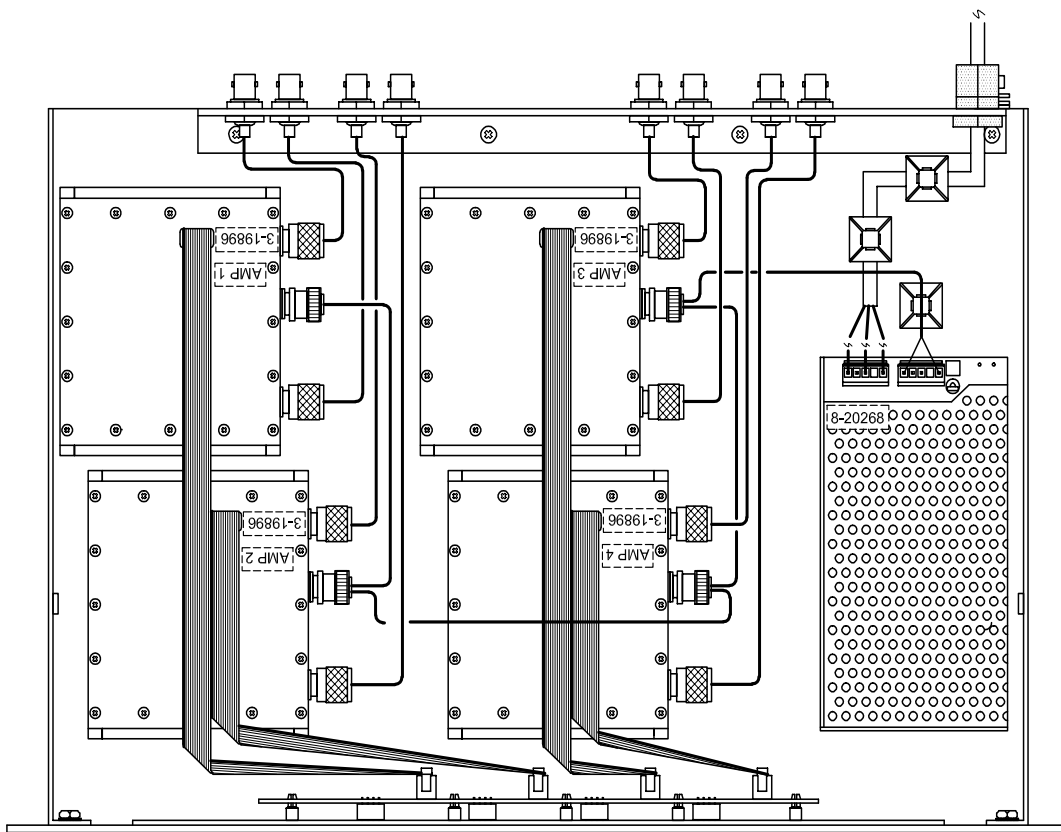
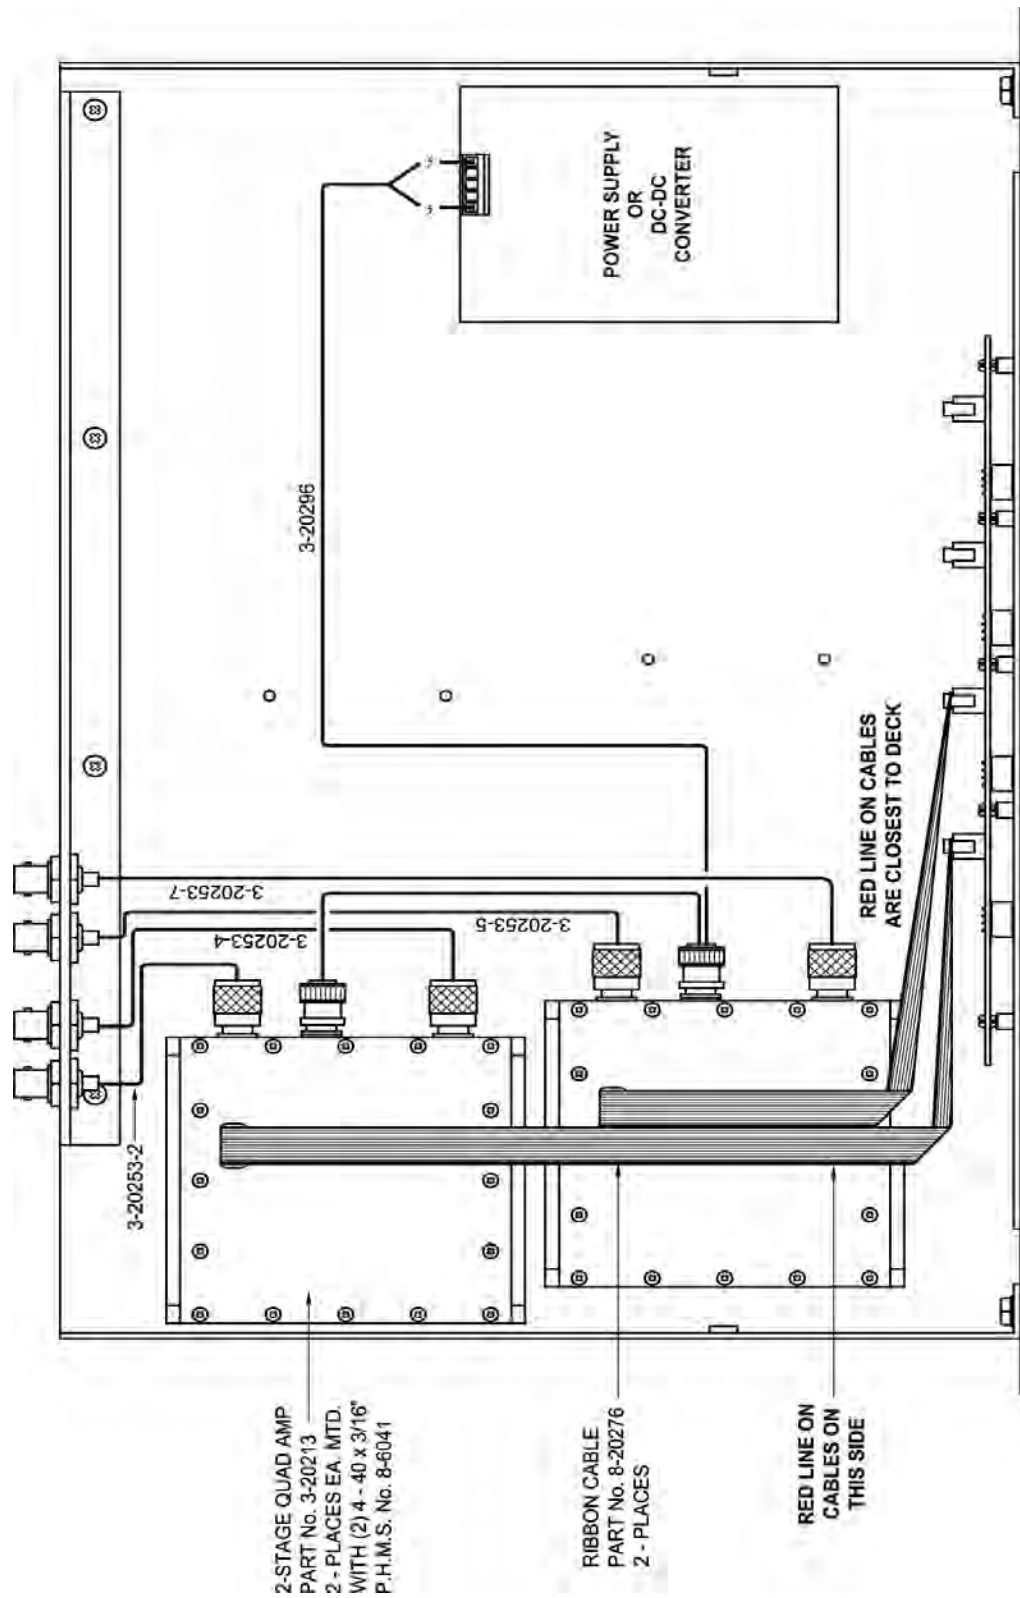

Figure 1: The Amplifier Deck w/Attenuator. Model 86-38-70-4 shown as an example.
Figure 4: Expanding from 1 amp to 2 amps.
The TX RX Systems Amplifier Decks with Attenuators consists of high quality low noise amplifiers with built-in programmable attenuation. The decks are available in either the VHF or UHF bands with models available in each band containing from 1 to 4 amplifiers housed on a standard 19" deck. A typical model is shown in **Figure 1**.
- 3) Place the new amplifier assembly on the deck in the correct location as shown in **Figures 4, 5, or 6**. There are specific locations on the deck for amps 1, 2, 3, and 4 as shown in figure 1.